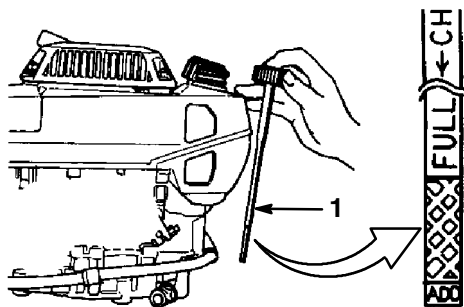

Figure 6
Before each use, ensure that the oil level is between the *Add* and *Full* marks on the dipstick (Fig. 6).
2. Clean around the dipstick (Fig. 6).
6. Read the oil level on the dipstick (Fig. 6).